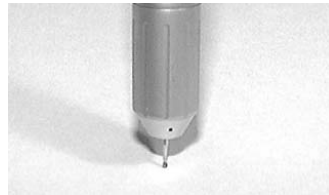

Fig. 12
- 1) As the chuck of the PRESTO AQUA handpiece is a push-in type, set FG burs of  $\phi 1.6\text{mm}$  and push in as shown in Fig.12